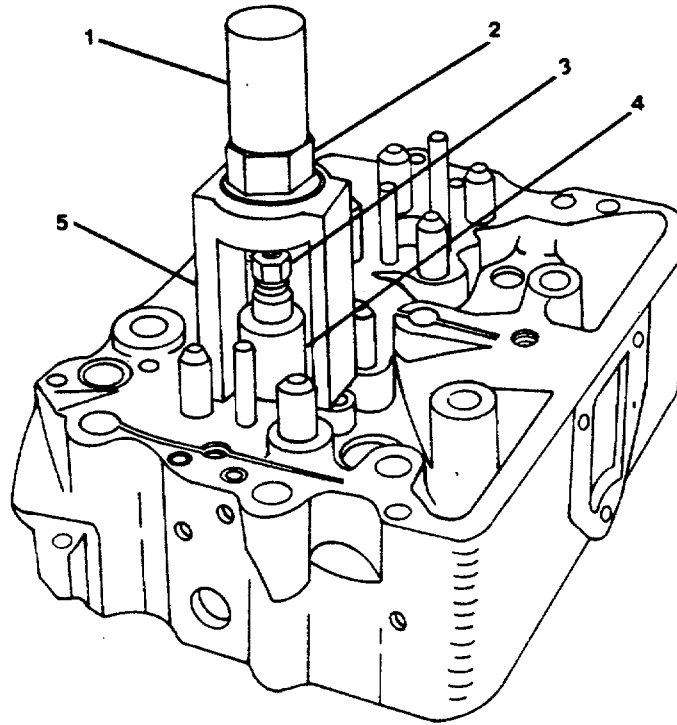

FIGURE 4-14. *Injector Sleeve Puller/Driver.*
- (1) Inspection and removal of sleeves.
- (b) Replace any sleeve which leaks or has damage. Use the injector sleeve puller to remove the sleeve from the cylinder head (Figure 4-14).
- (c) Install the puller into the sleeve so that the legs of the bridge of the puller (5, Figure 4-14) are against the surface of the cylinder head.
- (d) Install the driver (1) on the puller (5). The driver must be against the large hexagon nut (2). Hit the driver with a large hammer to push the forming collar (4) into the sleeve. Remove the driver.
- (e) Tighten the small hexagon nut (3) to 50 ft-lb (67 N•m) torque. Do not tighten the nut to more than 60 ft-lb (81 N•m) torque.
- (f) Turn the large nut (2) clockwise to pull the sleeve from the cylinder head.
- 1 Loosen the large and small nuts (2, 3, Figure 4-14).